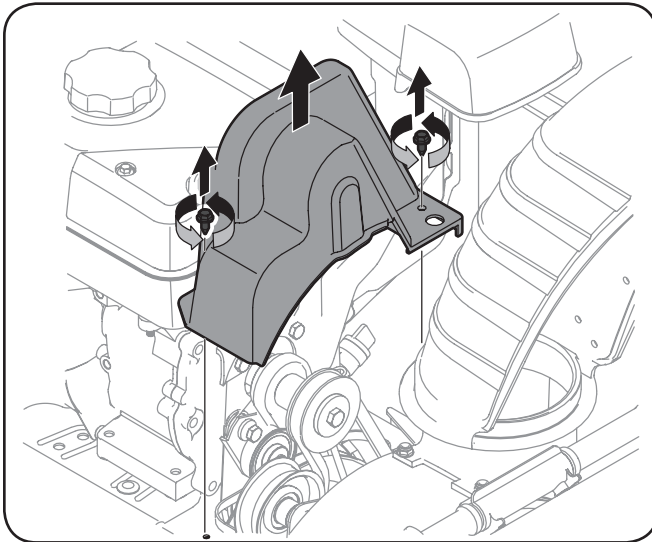

**Figure 7-1**
2. Remove the plastic belt cover on the front of the engine by removing the two self-tapping screws. See Figure 7-1.